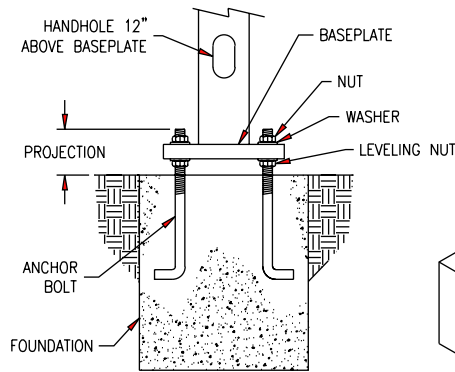

FIGURE 2
2. Bolts should project above top of foundation. Two sets of nuts are provided for each bolt for pole leveling. Stand pole on anchor bolts and plumb using nuts and washers provided. See Figure 2.